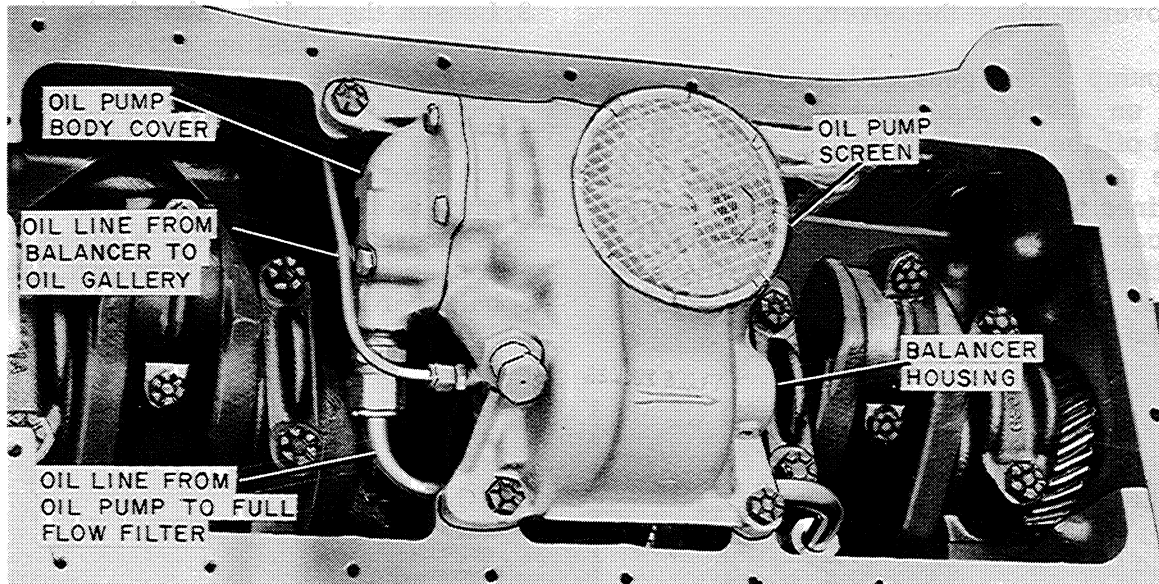

Figure MM-9
2. Remove the oil line from the oil pump to the full flow filter, Figure MM-9.
3. Remove the smaller oil line from the balancer to the oil gallery, Figure MM-9.